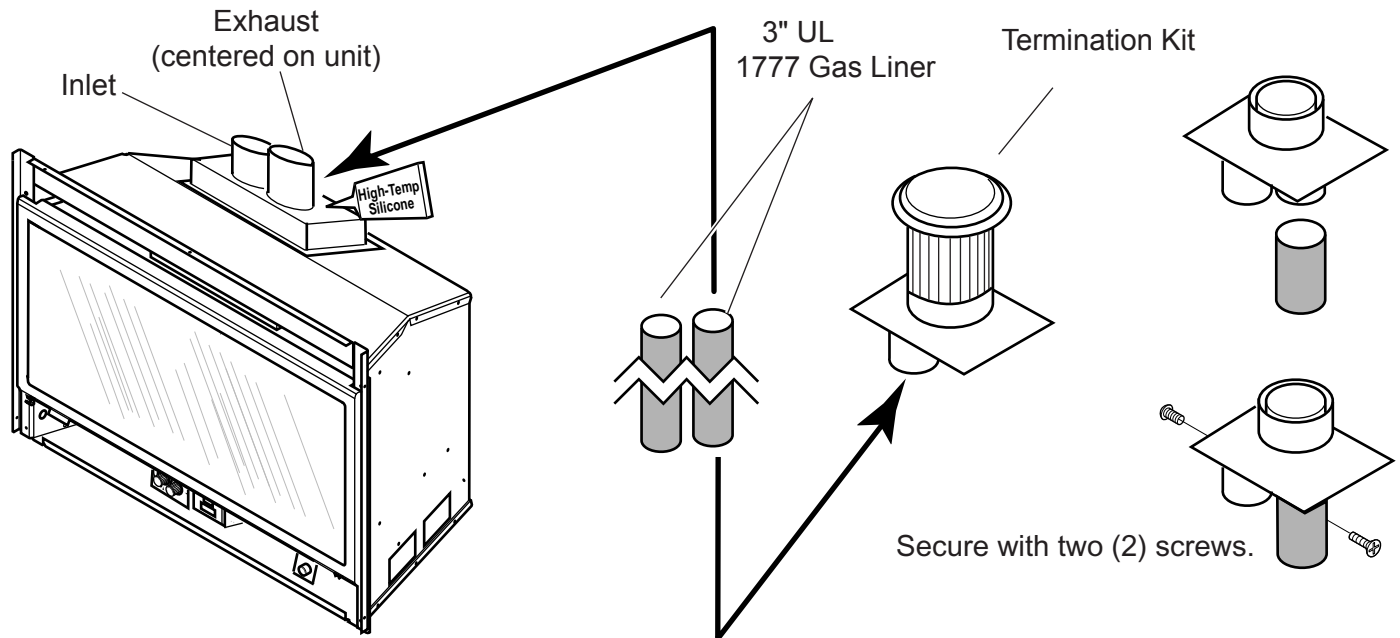

Figure 7 - Connecting Exhaust Pipe to Heater
- Make sure the exhaust pipe on heater connects to exhaust portion of cap. Attach flex liners. See *Figure 7*.